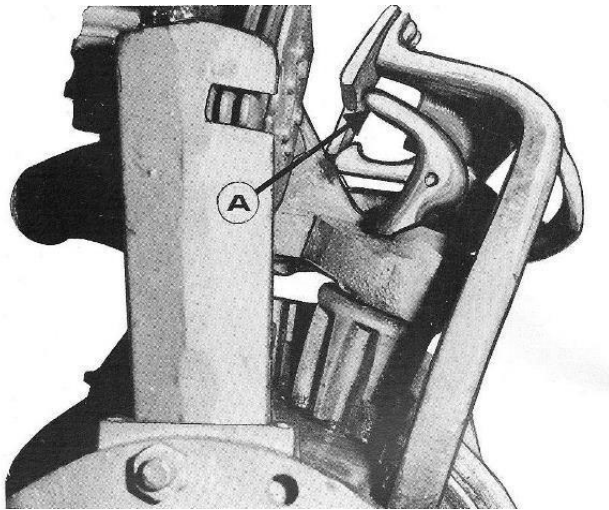

Fig.4.14 The Knife/Stripper Arm should not contact the Bill Hook (**A**) during the tying cycle **EXCEPT** to rub across the Bill Hook's heel
- **Bent Knife Arm:** The Twine Knife is usually attached to the end of a pivoting, cam-driven Knife/Stripper Arm made of malleable cast iron (*see Figs 3.3*). It can be bent (*slightly*) to adjust its position and/or travel **BUT**, it can also become bent in-service. This can affect knife-twine strand contact and/or allow the Bill Hook Tip to contact the Knife as it passes, and stress the Knotter Frame (*Fig.4.14 & Table 5 – Fault 8*).